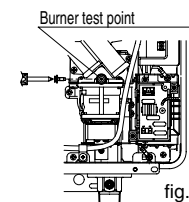

fig. 2
5. Attach pressure gauge to burner test point, located on the gas control. (fig. 2)